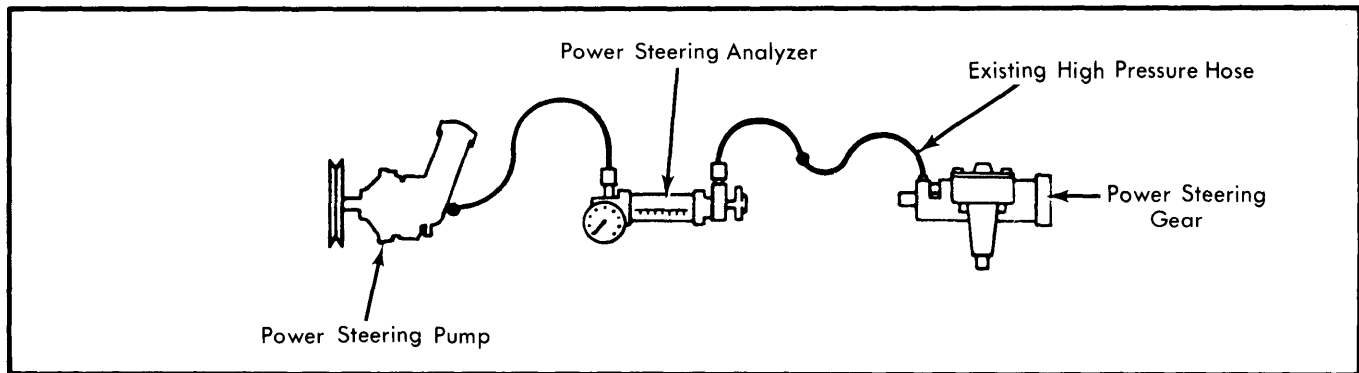

Fig. 4 Typical Installation
**Ford Motor Co.** — Pump flow and pressure tests are accomplished using a suitable flow/pressure analyzer (970-001) to determine system back pressure, pump flow, and internal leakage in the steering gear, control valve and cylinder. Prior to making these tests, assure that tire pressure, belt tension and fluid levels are proper. Check entire system for damage and note pulley size and pump model for proper vehicle application. Model identification labels are attached to the reservoir body with adhesive. HBC (Ford/TRW) pumps will have a suffix giving pump model, while HBA pumps (Saginaw) will only indicate the letters GS, GR, or GT on the tag. Reservoir must be kept full and at normal operating temperature (165-175° F) during testing. Using Figs. 4 through 7, attach tester and proceed as follows:
1) With engine idling, note flow (A) at approximately 2 gallons per minute and pressure (B) 150 psi or less (200 psi if hydroboost equipped). On non-integral power steering, jiggle steering wheel to insure spool valve centering prior to testing. Higher than normal pressures (B) indicate line or poppet valve (Saginaw) restrictions.
2) Partially close tester valve to build pressure to 625 psi and note flow (C) to be at least equal to flow (A). Lower flow indicates further pump servicing is required.
3) Completely close and partially open valve three times noting pressure (D). (Do not allow valve to be closed for more than five seconds). Pressure readings 100 psi lower or 50 psi higher than specified indicate control valve cleaning or replacement is required.
4) Increase engine speed to approximately 1500 RPM and note flow (E) within one gallon/minute of idle flow (A). Control valve servicing will be required if flow varies beyond this amount.